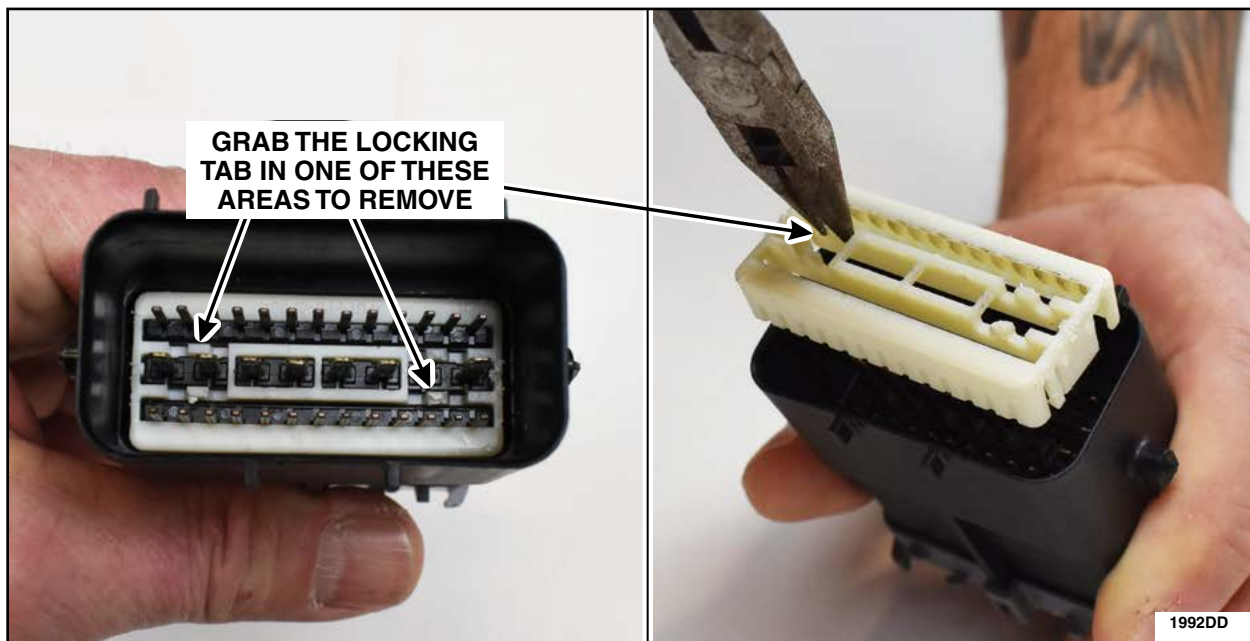

FIGURE 19
- **Male Side Pigtail**, using a small pair of needle nose pliers, or an equivalent tool, remove the white pin terminal locking tab from the *new* male pigtail connector hard shell as shown in Figure 19.